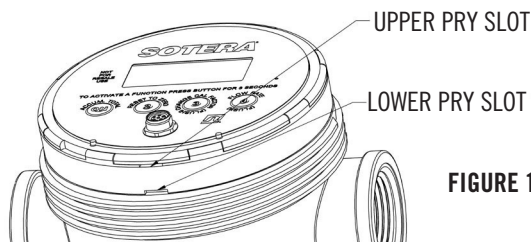

FIGURE 1
1. Unscrew meter cap (item 1, page 12). Use a strap type oil filter wrench or 5" open jaw type wrench if too tight to unscrew by hand.
2. Insert a wide, flat-head screwdriver into the upper slot and gently pry up electronics module (see Figure 1).